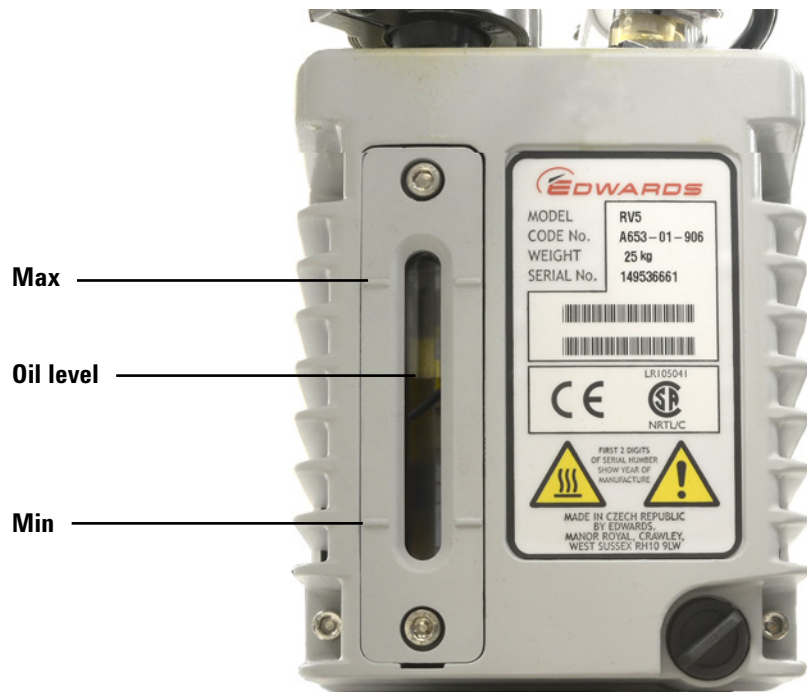

Figure 16 Checking the oil level
- 4** Add new pump oil until the oil level is near, but not over the maximum mark beside the oil level window. See Figure 16 on page 60.
- 6** Add new pump oil until the oil level is near, but not over the maximum mark beside the oil level window. See Figure 16 on page 60.